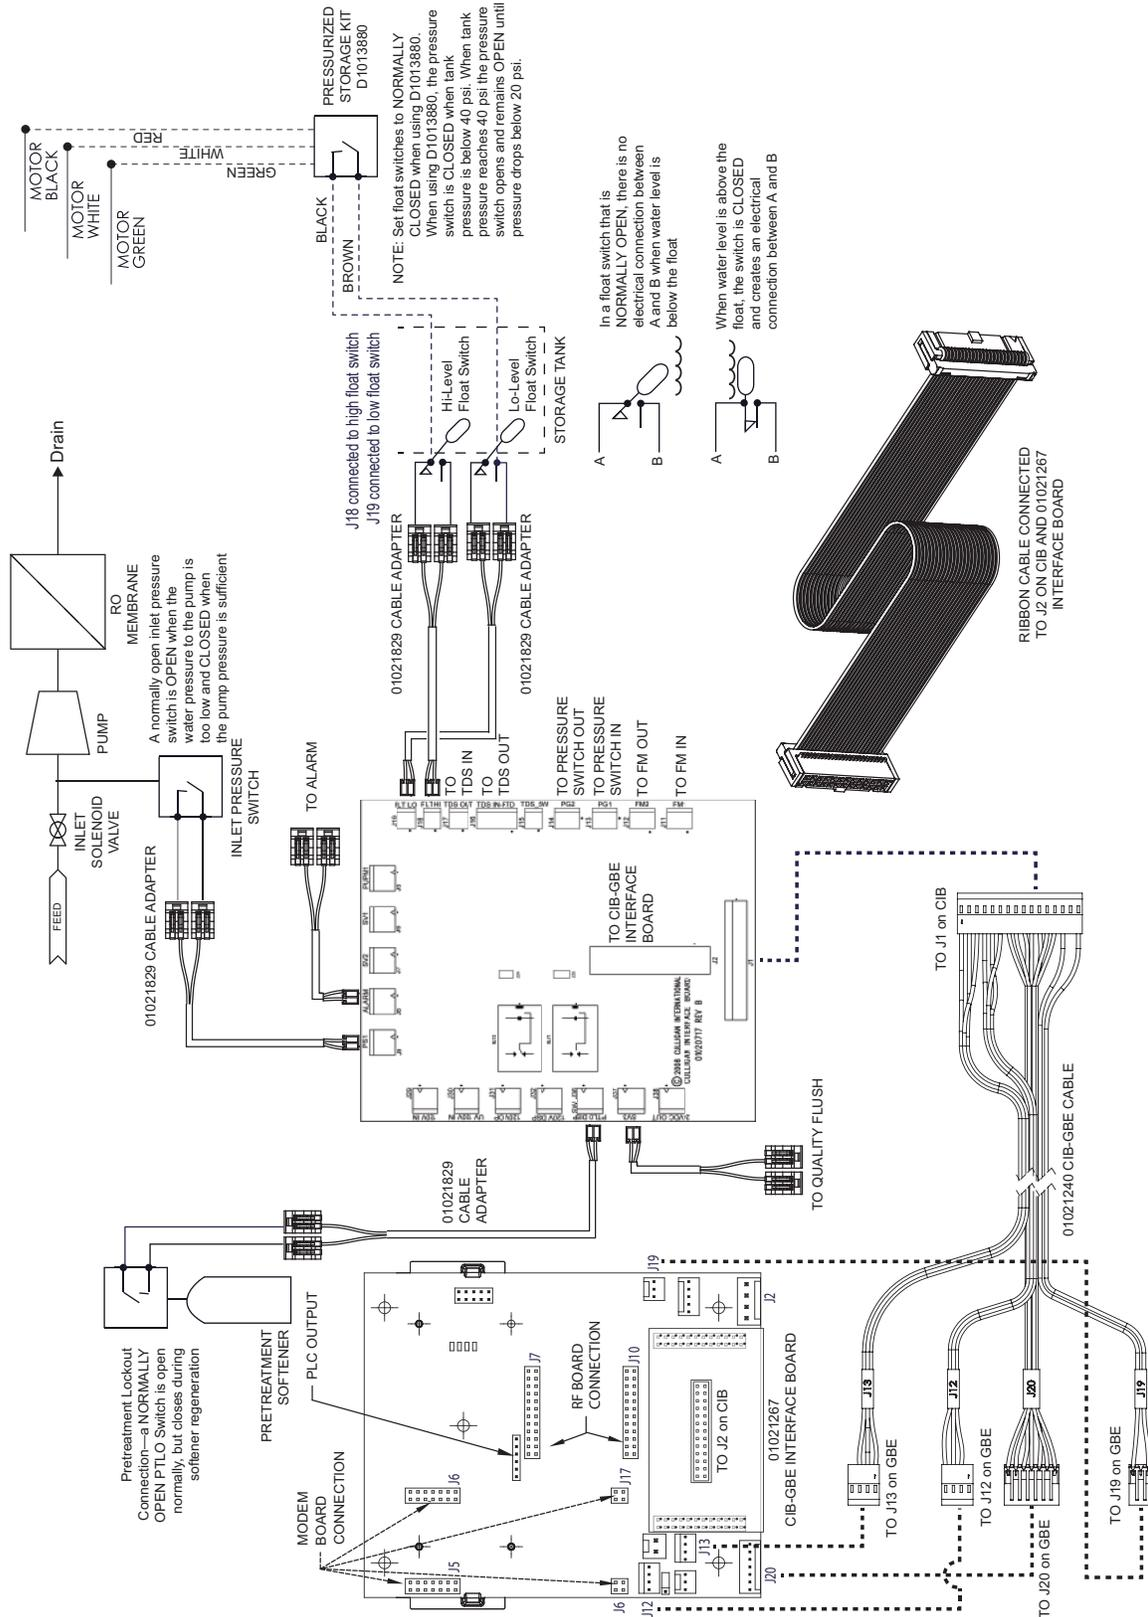

Figure 55. GBE RO Controller and Culligan Interface Board basic sub-panel wiring.
2. Connect the wires to the disconnect switch as indicated on the unit wiring diagram (see “Figure 55. GBE RO Controller and Culligan Interface Board basic sub-panel wiring.” on page 113).